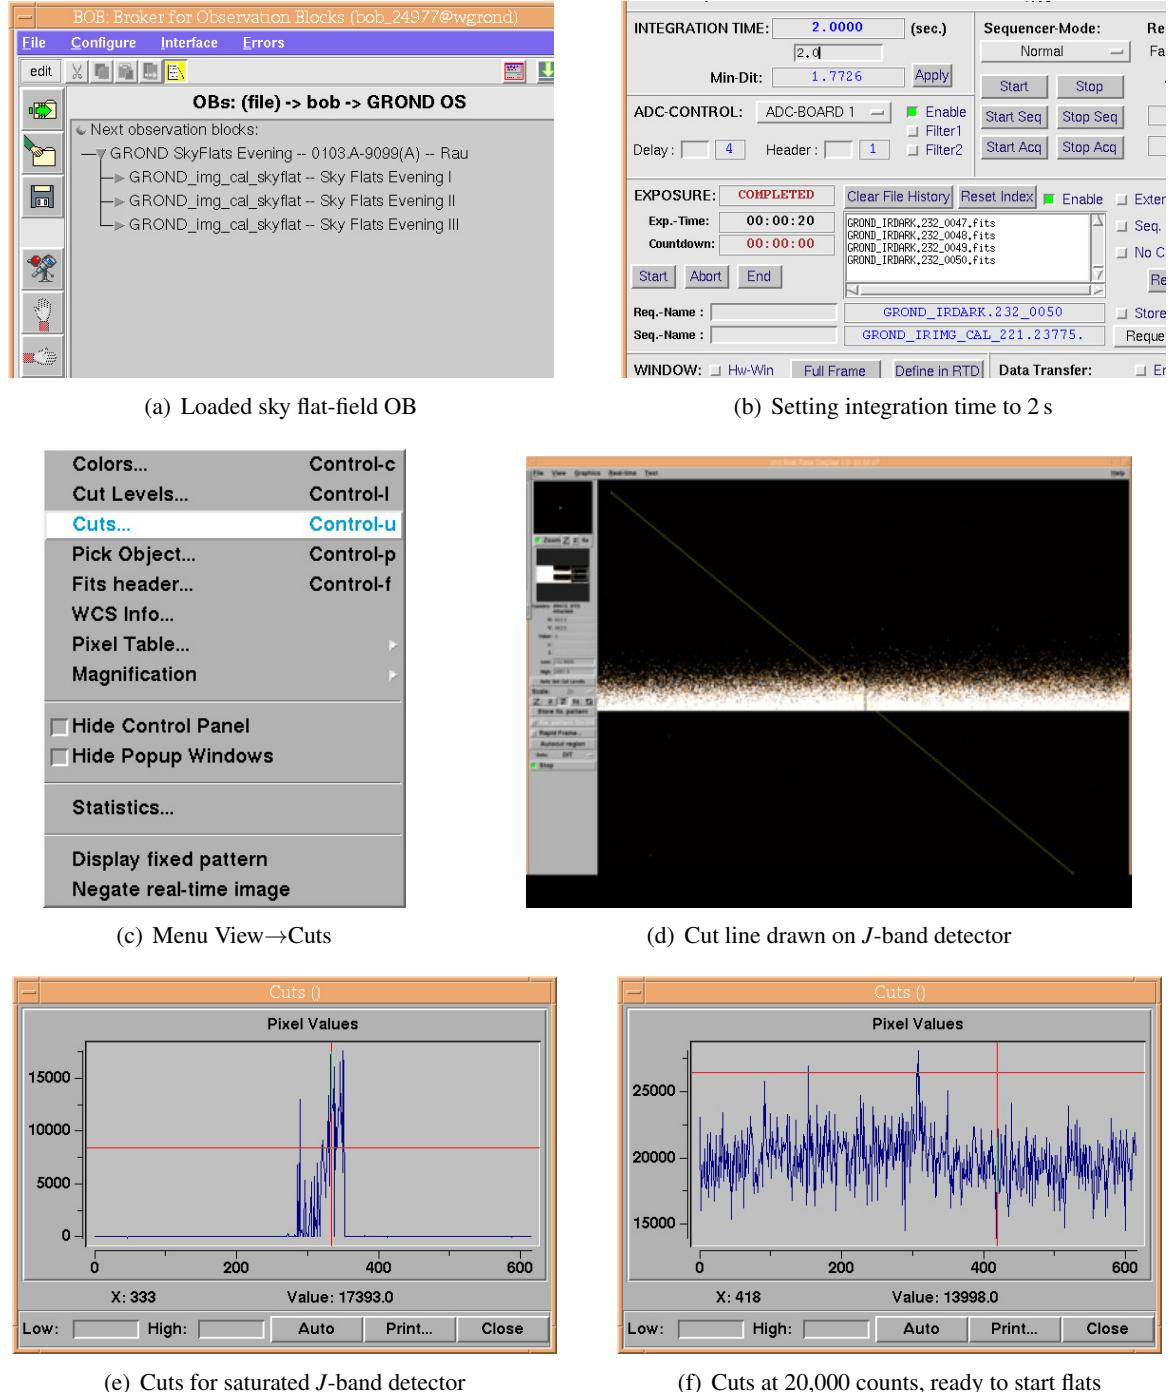

Figure 5.3: GROND evening sky flat fields.
- G. Get **sky flat fields OB** ready (Fig. 5.3(a), p. 52)
H2. Set the IR integration time to 2 s (Fig. 5.3(b), p. 52).
- Use window menu View→Cuts..., then click OK on the pop-up (Figures 5.3(c)–5.3(d)).
H4. Wait for the cuts to look flat and with about 20 000 counts. (Figures 5.3(e)–5.3(f))